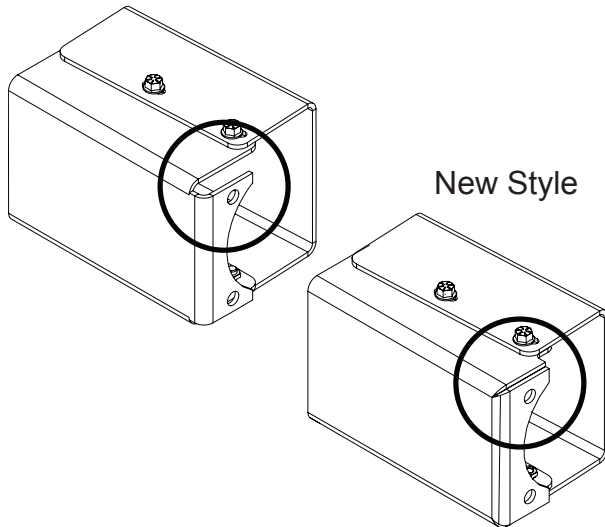

Figure 3
2. Inspect the square pump mount cover to determine if the new half is already installed. See Figure 3 for illustrations of the old style and the new style. The new style does not have a gap between the top piece and the side piece.